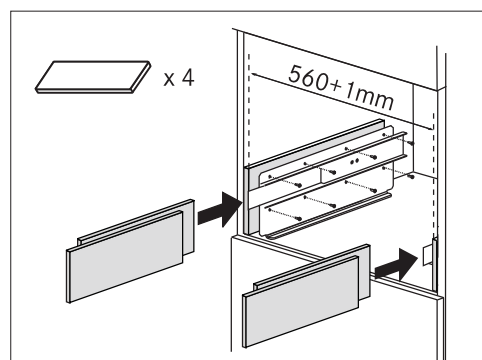

Fig. 7
- If necessary, correct alignment of the appliance by positioning the spacers under or at the sides of the support (Fig. 7).